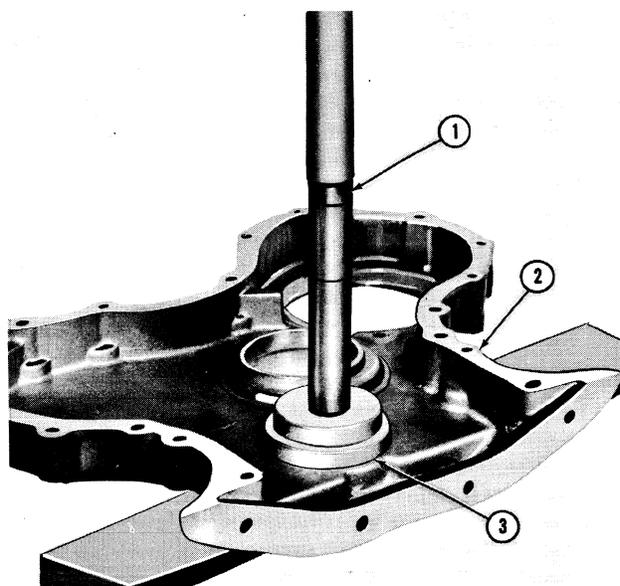

Figure 21
3. Insert the dust seal in the seal bore before installing the oil seal. Coat the new oil seal with petroleum jelly and install the seal as shown in Figure 21. To install the seal, use Step Plate No. 630-16 and a driver handle. Drive the seal in until it is fully seated in the seal bore. Check after installation to be sure the spring is properly positioned in the seal.